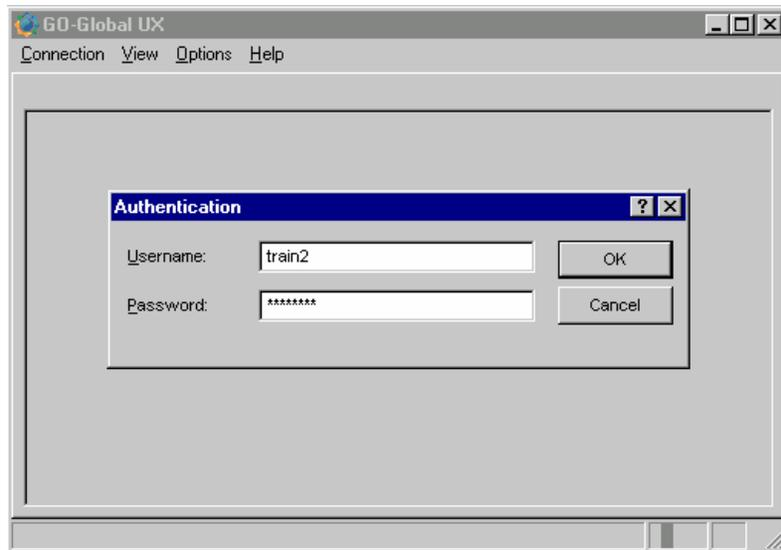

Figure 3
5. After you click connect the following screen will appear Figure 3. This is the screen for you to input your username and password.